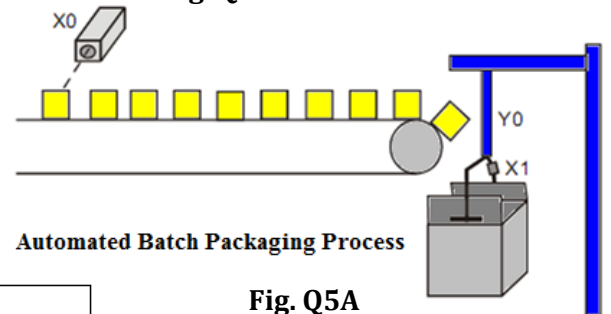

Fig. Q5A
- 4B. With a neat diagram, explain the working of a flash analog to digital converter. Further, for a supply excitation of +12 V, determine the digital output of a 4 bit flash A/D converter for an input voltage of 2.5 V (03)
- 4C. With a neat diagram, explain the working of an R-2R resistor ladder digital-analog converter. For a reference voltage of 5V, create a table of analog voltage output of a 4 bit R-2R digital-analog converter. Let $R = 100K\Omega$, $R_f = 400K\Omega$. (04)
Fig. Q5A depicts a typical automated product packaging process. Once, the employed photoelectric sensor (X0) detects 10 products on the conveyer belt, the robotic arm (Y0) automatically packs the product carton placed at the end of the chain. The whole packaging process is reset upon the successful packaging of every batch of 10 products. With appropriate ladder logic, explain the proposed solution to achieve the above stated aim. (03)
- 5B. With a neat diagram, explain the working of a linear voltage regulator employing the standard NPN Darlington with PNP driver. (03)
- 5C. With a neat diagram and accompanying waveforms of diode voltage, diode current, input current as well as output current, explain the working of an ideal boost converter. Also derive the final expression of the output voltage. (04)